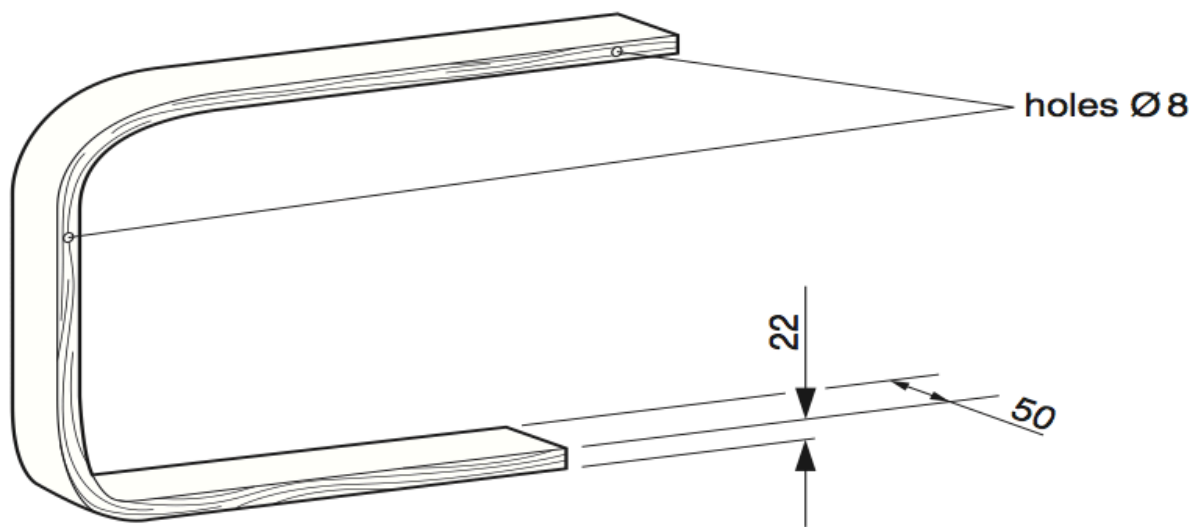

Fig. 7
Fig. 7 shows one of the wooden side frames for the chair.
- (e) (i) State a **suitable specific material** for the side frame shown in Fig. 7.
Describe, in detail, how the side frame shown in Fig. 7 would be manufactured as a batch of 5000. Include details of any special equipment and quality control checks that would be used. Use a flowchart and/or annotated diagrams to support your answer.